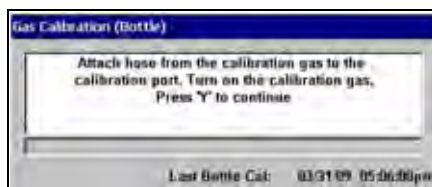

Figure 4-26 Sample Gas Calibration (Bottle)
7. After the Zero Calibration finishes, follow the on-screen instructions (Figure 4-26), and press **Y** to begin the calibration.